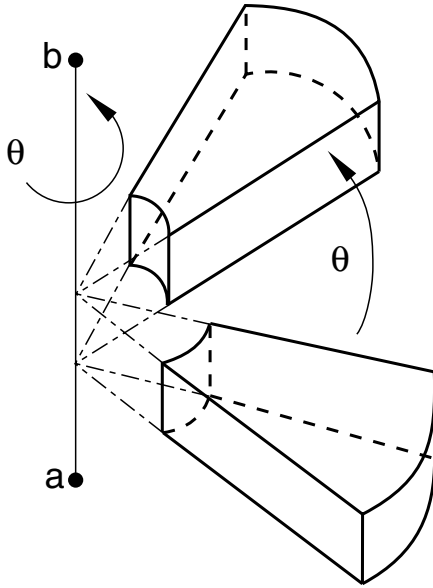

Figure 1: Substructure rotation.
1. Global X-coordinate of point *a* on the axis of rotation (see Figure 1).